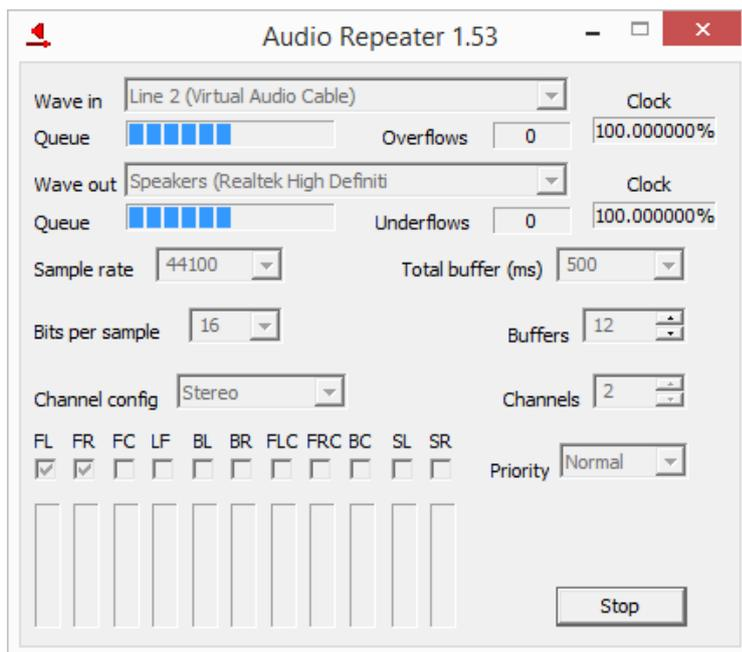

Figure 10: Here the Audio Repeater module of VAC software has been started.
- Click onto “Start” to activate the audiorepeater – see *Figure 10*, next page.